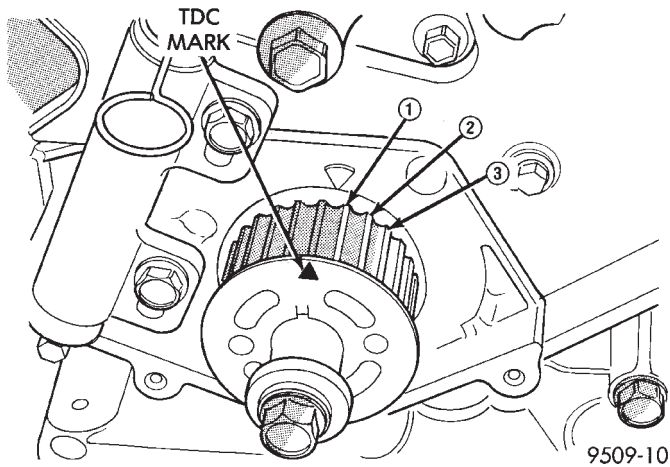

Fig. 67 Crankshaft Sprocket Timing
(4) Set crankshaft sprocket to TDC by aligning the sprocket with the arrow on the oil pump housing, then back off to 3 notches before TDC (Fig. 67).